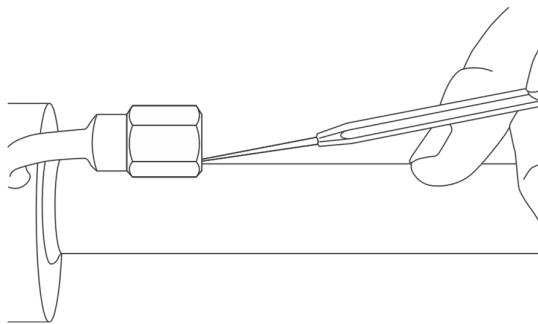

Figure 34: Removing excess seal tape from flange
13. Remove excess seal tape from the flange opening and threads and check galling. Refer to Figure 34.c